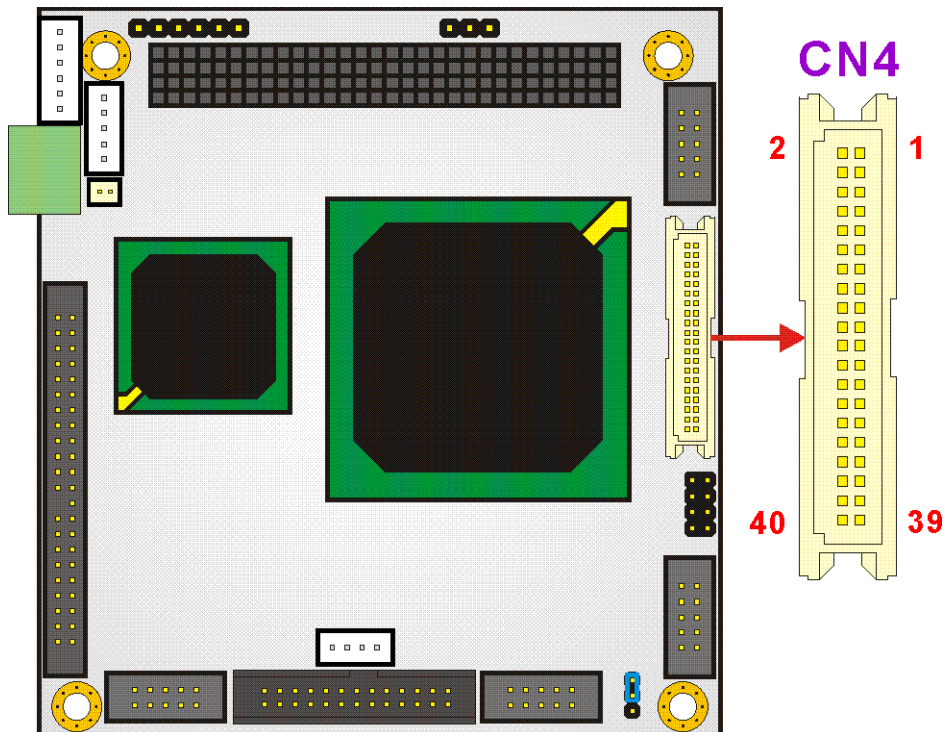

Figure 3-17 TTL LCD Connector Locations
- CN Location: See Figure 3-17